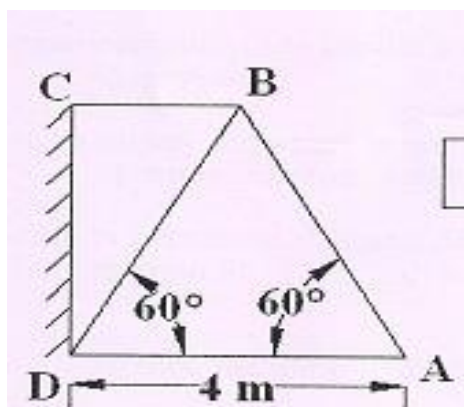

FIGURE:1
21. (a). Determine the forces in the member 4m as shown in figure1 below.